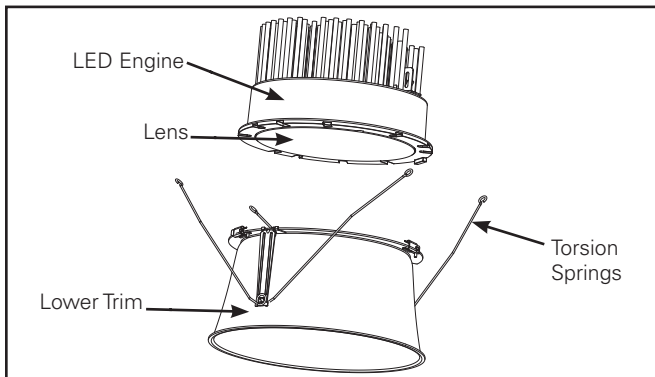
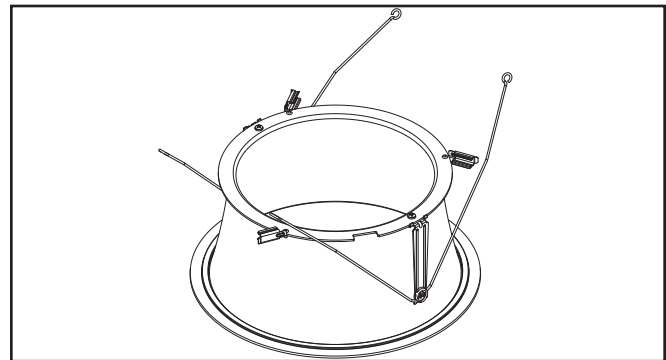

Figure 2. Lower Trim Assembly
Figure 4.
1. Remove lower trim from protective packaging. Remove plastic trim ring and discard. Remove LED engine from protective packaging (Figure 2). Rotate side clips (3) outwards (Figure 4).